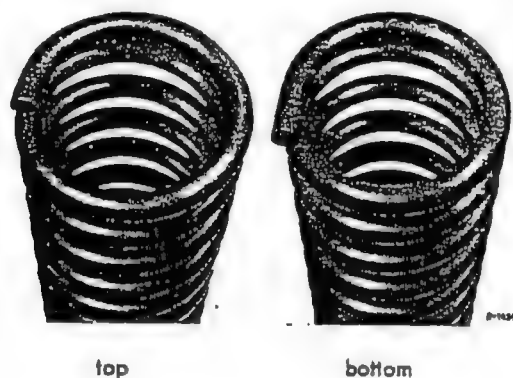

Fig. 32-4/8
*) When mounting the spring pay attention to the difference between top and bottom coil ends (Fig. 32-4/8).